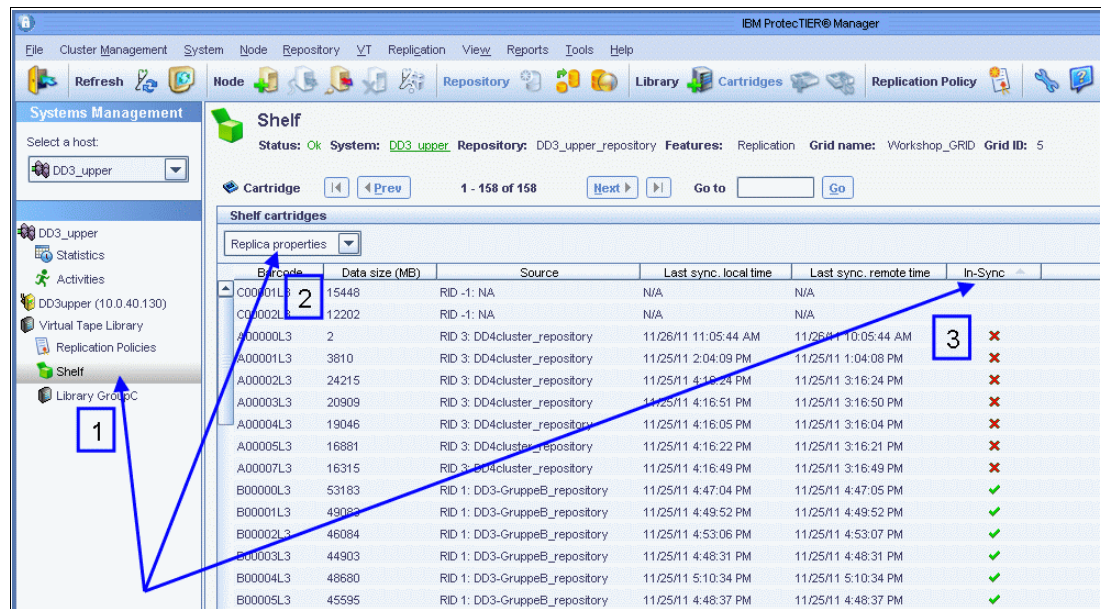

Figure 22-5 Gauging the replication status with the ProtecTIER Manager GUI
To use the GUI, click your Shelf (1), choose **Replica properties** from the Shelf cartridges (2), and sort the display list by the In-Sync status (3), as shown in Figure 22-5.